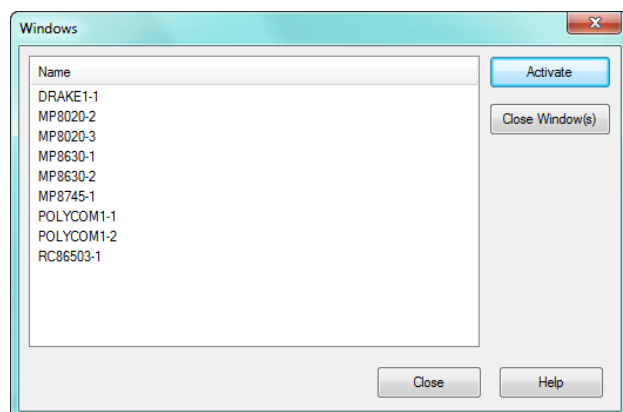

FIG. 40 Windows dialog
1. Go to **Window > Windows...** to open the *Windows* dialog (FIG. 40).